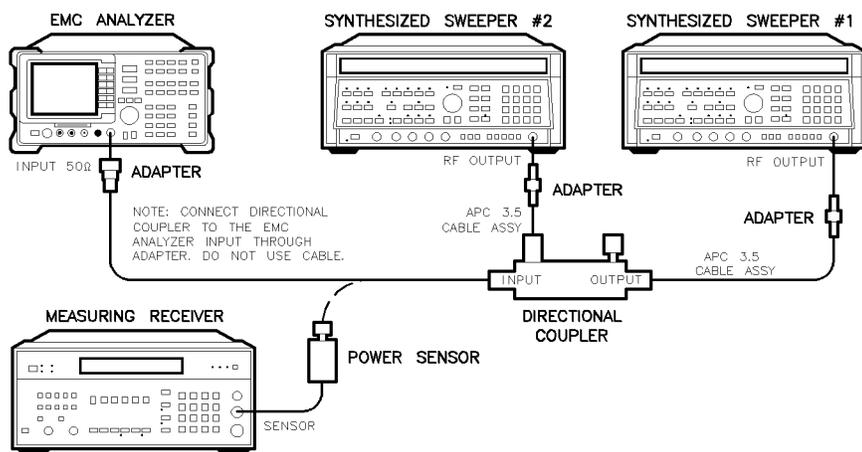

Figure 2-54.
35. Connect the equipment as shown in Figure 2-54 with the input of the directional coupler connected to the power sensor.